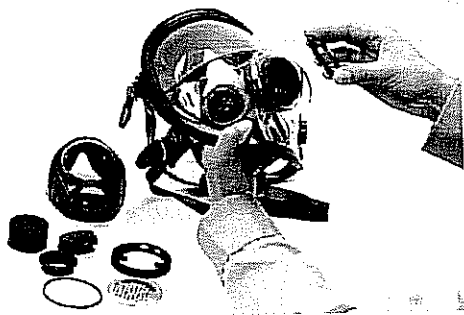

FIGURE 17
- e) Remove the speech diaphragm housing and O-Ring from the facepiece by unscrewing the nut on the outside. Inspect the O-Ring for damage, replace if necessary. (See Figure 17.)